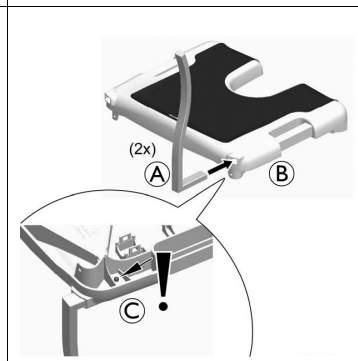

Fig. 5
### Fitting the Backrest (Fig. 5 - 6)
1. Push backrest frame **A** into the rear openings of seat plate **B** on both sides, see Fig 5.
– Ensure that both catches **C** of the backrest frame audibly engage on the underside of the seat plate, see Fig 5.